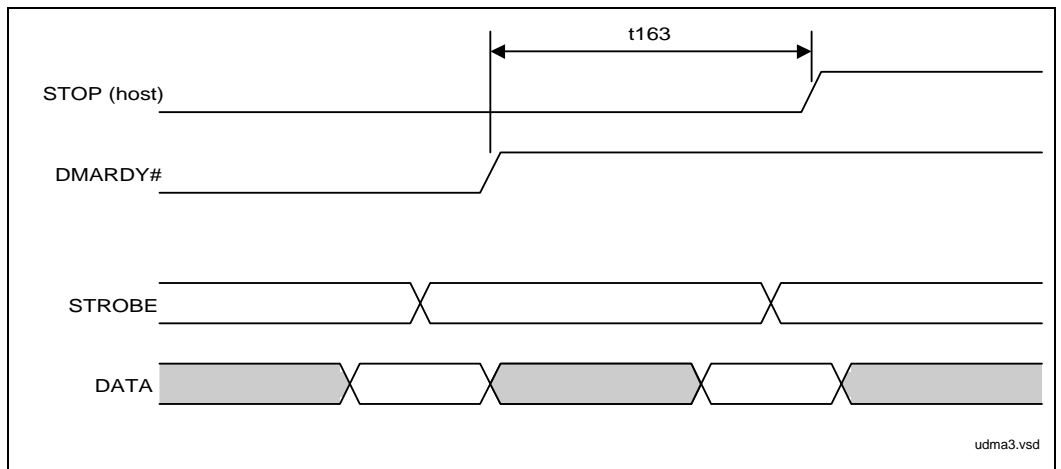

Figure 44. Ultra DMA/33 Sustained Synchronous DMA Burst
2. These cycle timings are based on the STROBE period as indicated in Figure 44. However, Table 13 in the PIIX4 datasheet refers to cycle time strobe periods as 120 ns, 90 ns and 60 ns for mode 0, 1, and 2 respectively. The datasheet timings are different because they are based on the number of PCI clocks per cycle, not the actual period between the rise and fall of STROBE.